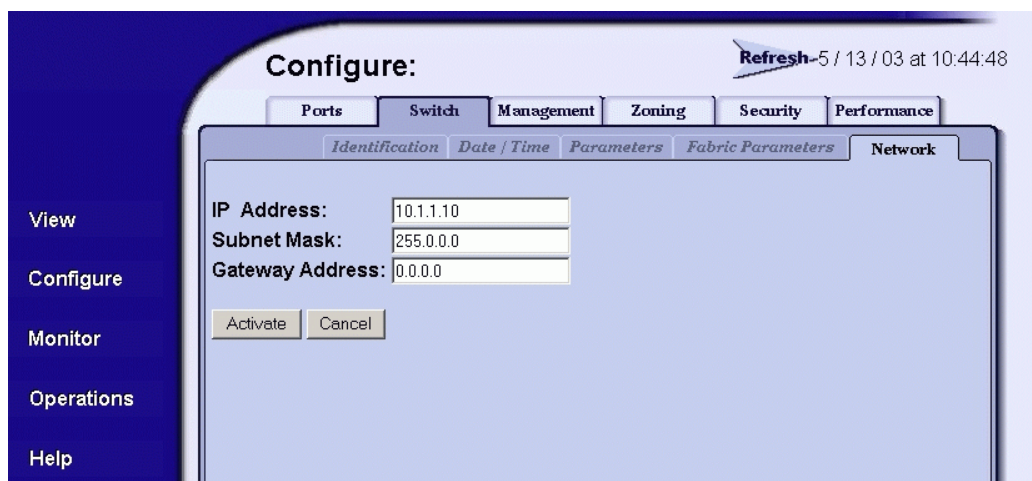

Figure 2-10 Configure Panel (Switch Page with Network Tab)
2. At the *Configure* panel, click the *Switch* tab, then click the *Network* tab. The *Switch* page displays with the *Network* tab selected (Figure 2-10 on page 2-19).